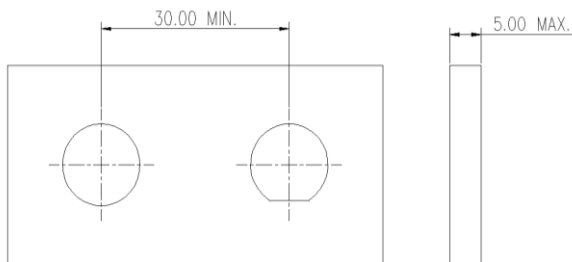

Figure 15
- ✧ 请确保墙板的厚度最大不超过 5mm, 无论水平或垂直结构，钻孔间隙至少要有 30mm (如图 15)
Please ensure the thickness of housing wall not more than 5 mm, for both horizontal and vertical mounting, the space of drilled hole is recommended at least 30 mm. (Fig.15)